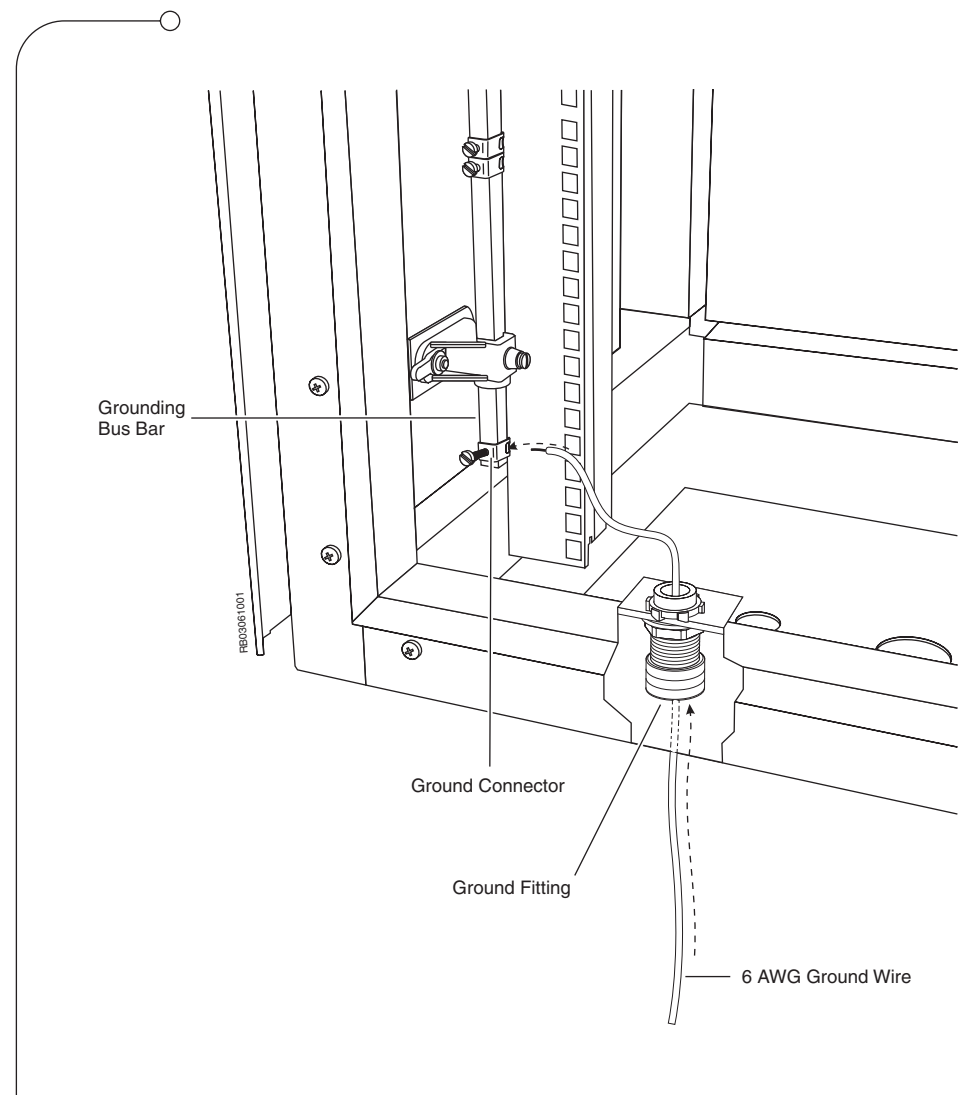

Figure 3.12 Ground Connection
2. Pass the 6 AWG wire through the ground fitting and connect the ground wire to the ground connector, as shown in Figure 3.12 on page 43.